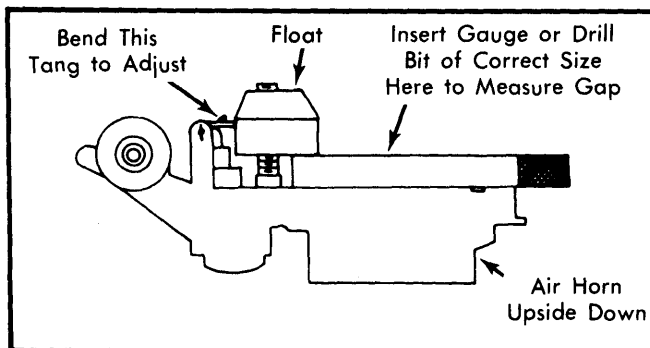

Fig. 2 Adjusting Float Lever
1) With air horn and gasket removed, turn air horn upside down. Allow weight of float to press down against float needle valve. See Fig. 2.